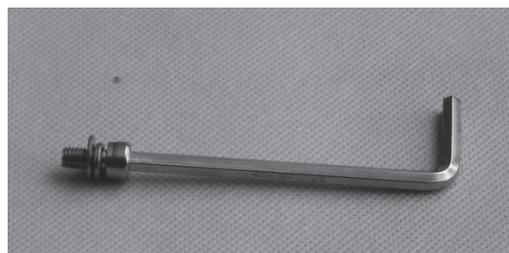

Fig. 2.5.
4.1. Insert hex tool into the screw head, put spring and plain washers on the screw body (fig. 2.5).